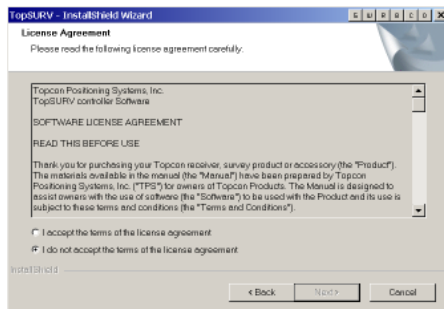

Figure 1-3. License Agreement
2. Review the *License Agreement* (Figure 1-3).